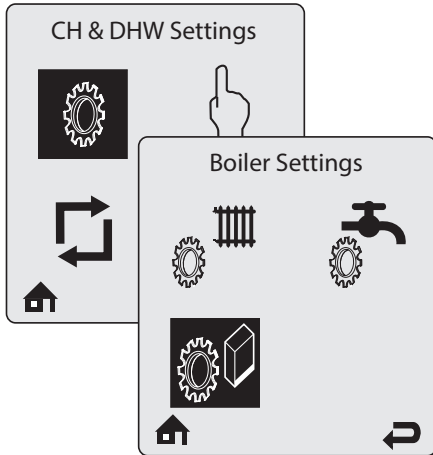
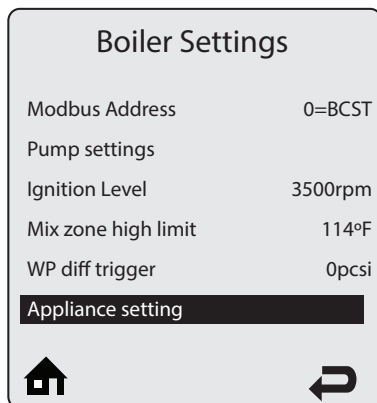

Fig. 14: Installer Menu
Fig. 15: Appliance Setting
2. Go to boiler settings and click appliance setting, as seen in Fig. 14 and Fig. 15.